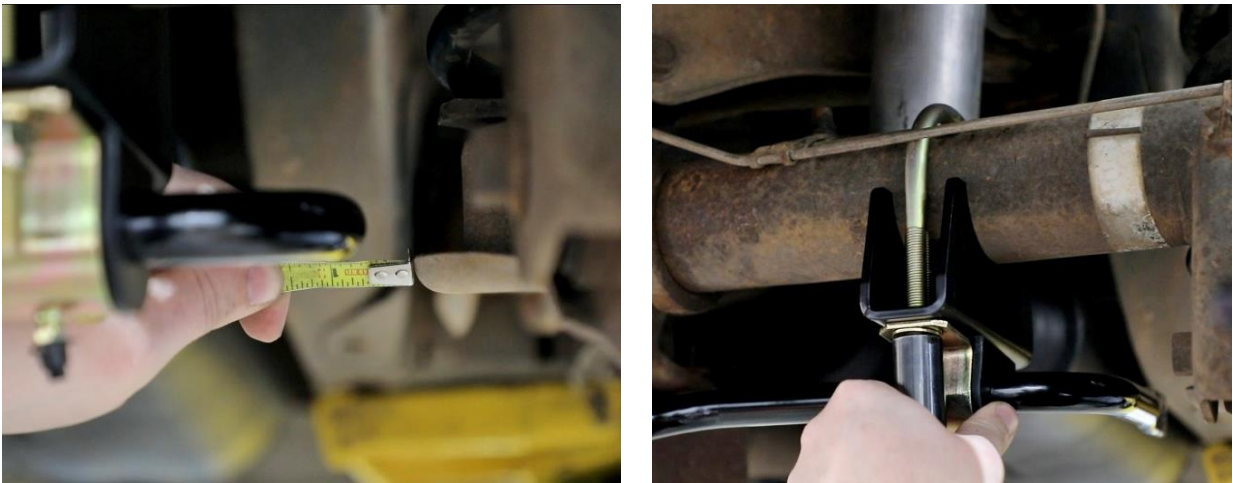

Figure 8 - Center and Tighten Sway Bar
- Center the sway bar on the rear axle with the clamps as wide on the sway bar as possible so that they are close to the bends. Make sure the U-bolts are vertical and snug the 7/16"-20 Nylock nuts on the U-bolts (Figure 8).